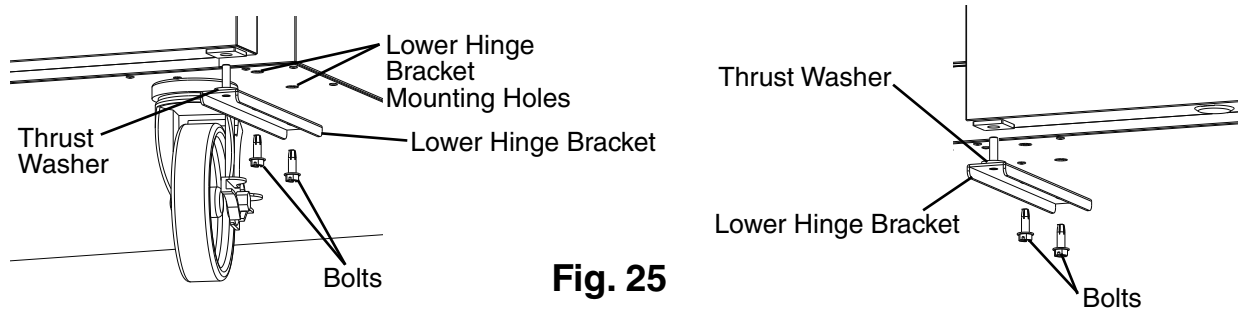

**Fig. 23**
- 9) With the door closed, loosen, but do not remove, the upper hinge bracket outer screw. See Fig. 23. Next, open the door to the fully open position and remove the upper hinge bracket inner screw. See Fig. 24.